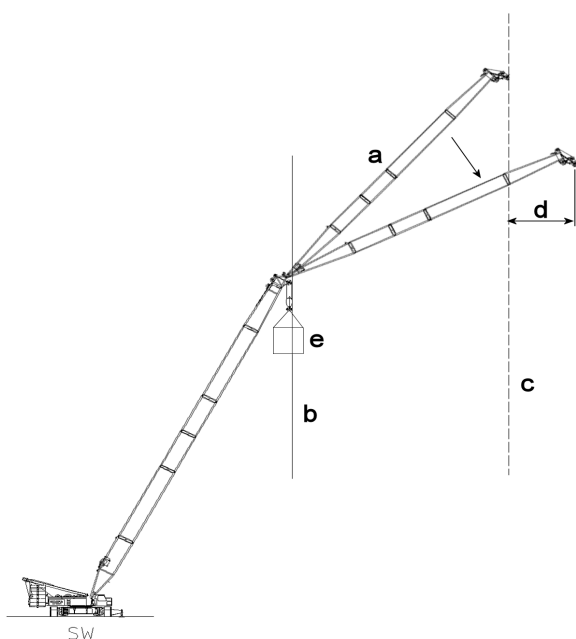
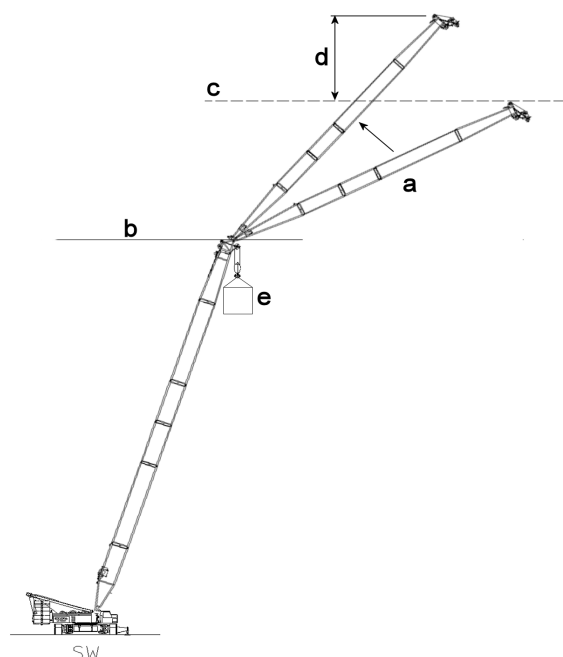

Fig. 1 Radius limitation
Fig. 2 Pulley head height limitation
- a** Starting position of jib system for which the radius limitation (Fig. 1) or the pulley head height limitation (Fig. 2) has been programmed in relation to the pulley head on the main jib.